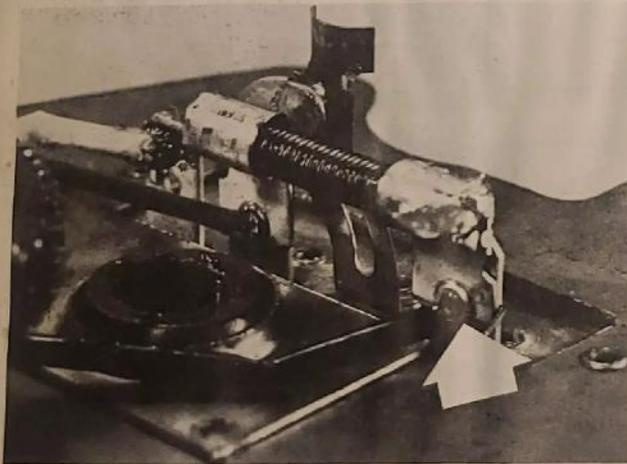

Fig. 14. Shunt Wire Connection
2. Remember, low speed depends on shunt field for operation. Remove gearbox cover and look for loose connection or cold solder joint where shunt is soldered to terminal board (fig. 14).